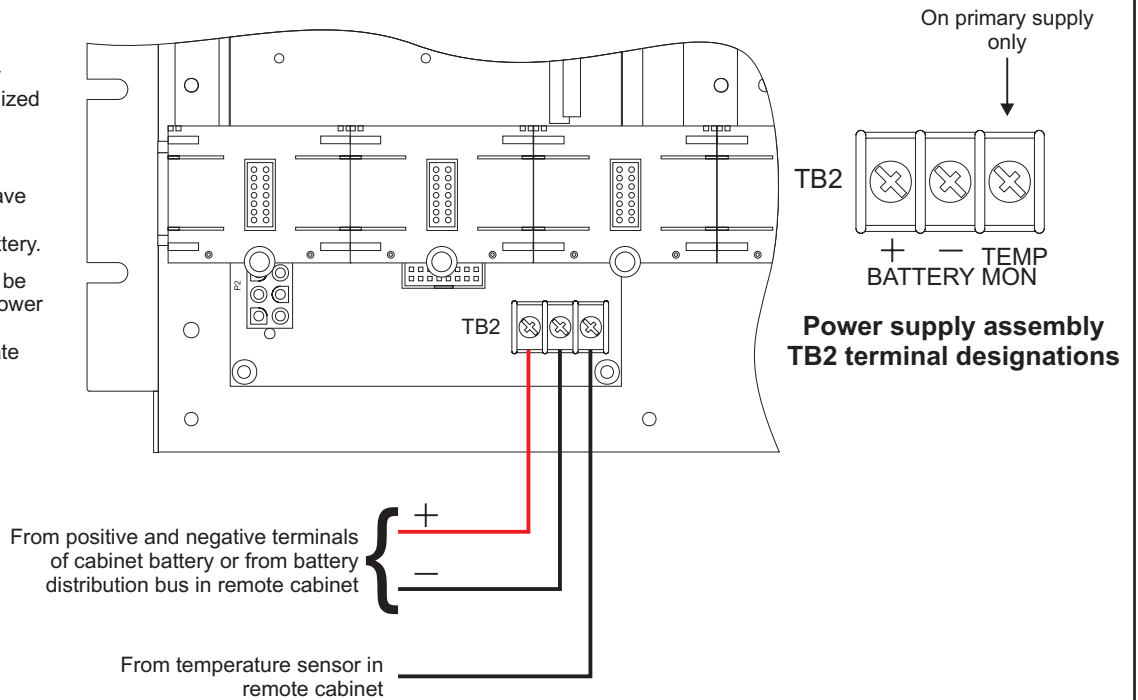

Figure-8: Standby battery wire connections
2. Connect the standby battery conductors to TB2 on the power supply assembly. Refer to Figure-8 on page 5.
3. If a remote battery cabinet is used, connect the temperature sensor conductor to TB2 on the primary power supply assembly. Refer to Figure-8 on page 5.